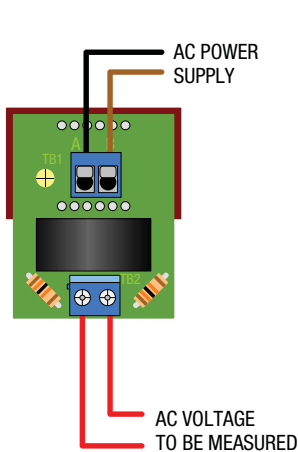

Figure 1A.
- 3. Power Supply Polarity, Fusing, and Grounding:** As shown in Figures 1A and 1B, the two power supply inputs, TB1-A and TB1-B, on ac-powered DMS-20RM voltmeters ("-AC1" suffix) are not polarity sensitive, that is, they have no "AC LO" or "AC HI" designations. Also, ac-powered models do not include or require a connection to earth/chassis ground. DC-powered models ('-DC2' suffix) are reverse-polarity protected, and must be connected as shown in Figure 2 for proper operation.